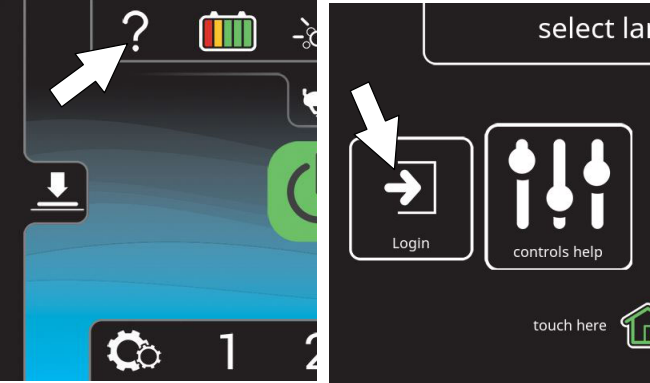

FIG. 176
- 2. Press the help button and log into the machine as supervisor mode (Figure 176). See *Entering the Supervisor Mode*.